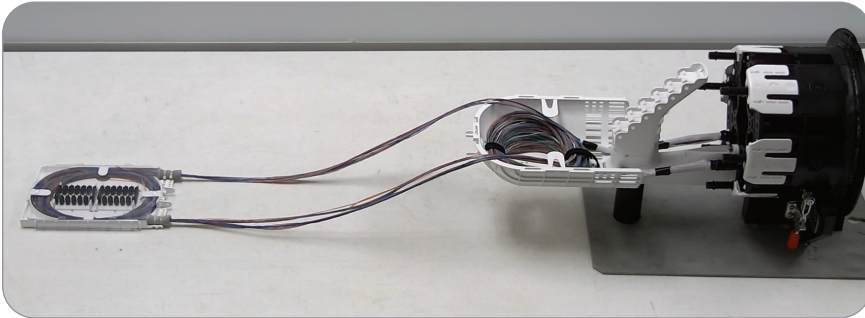

Figure 42
3. Secure fibers or tubes to tray at mark. (Figure 42)